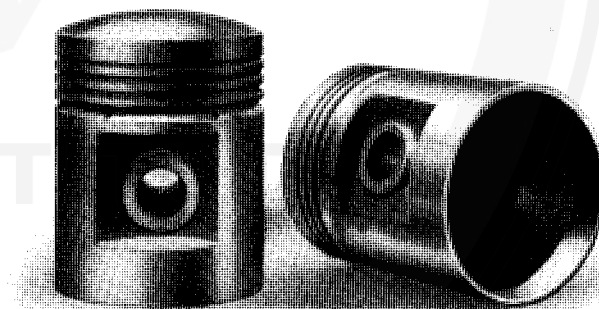

Fig. 4. Pistons.
*The Pistons* Fig. 4 are aluminium alloy die cast, this material having been adopted by us in 1919, after tests extending over five years. Three piston rings are employed, the lowest one acting as a scraper ring preventing over lubrication and resultant carbon deposit in combustion space. Immediately below the scraper ring is an oil groove drilled with holes through which the surplus oil drains away. The gudgeon pin is floating, i.e., neither fixed to the piston nor to the connecting rod ; it is tubular in form to save weight ; the ends are provided with aluminium plugs having a